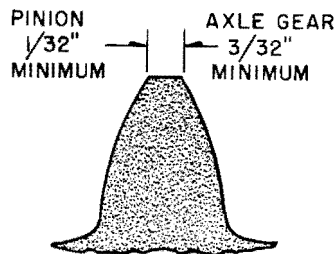

Fig. 4 - Pinion and Axle Gear Wear Limit
2. Check for wear limits, determined by dimension across the tip of the tooth. The minimum allowable dimension at this point is 3/32" for axle gears and 1/32" minimum for pinions, see Fig. 4.